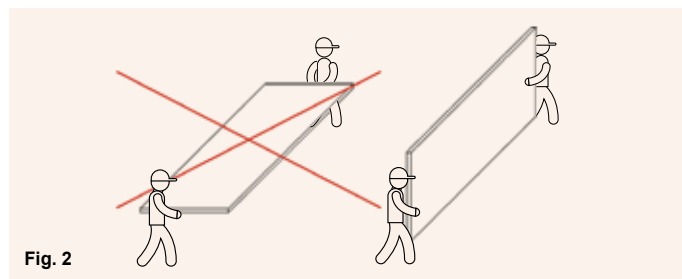

Fig. 2
**VMG Lignum Board** should be carried by hand in a vertical position, not horizontal, in order to avoid breaking (Fig. 2).